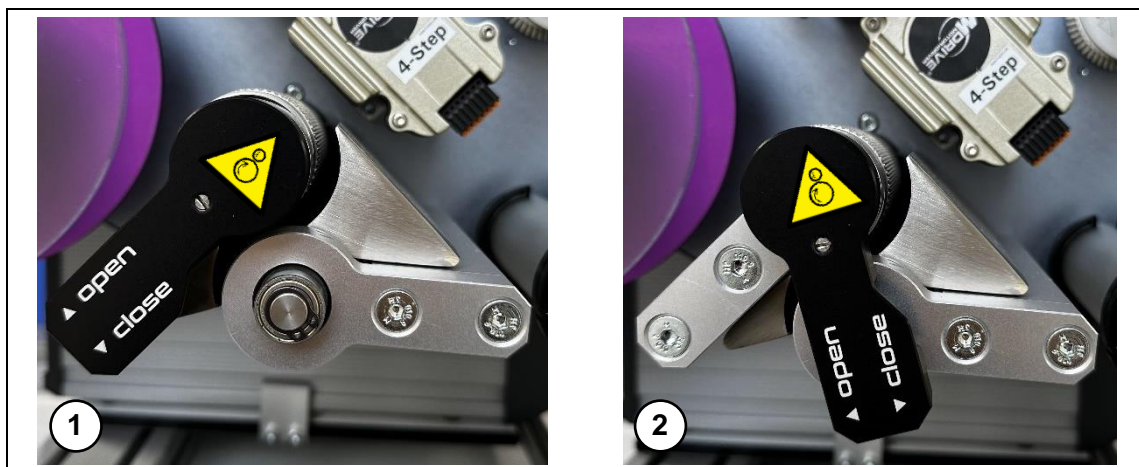

Figure 18 Closing the friction lever
Figure 18 shows the open friction lever under pos. 1 and the closed friction under pos. 2.